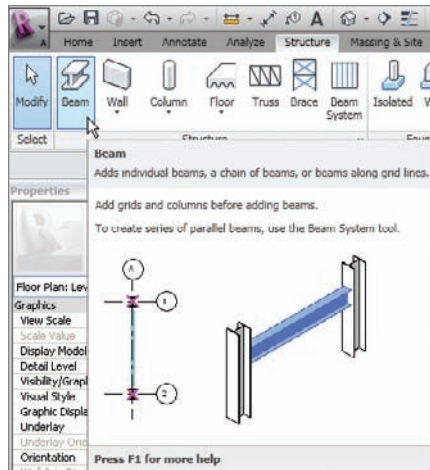

FIGURE 8.34 The Beam button on the Structure panel of the Structure tab
1. On the Structure panel of the Structure tab, select the Beam button, as shown in Figure 8.34.